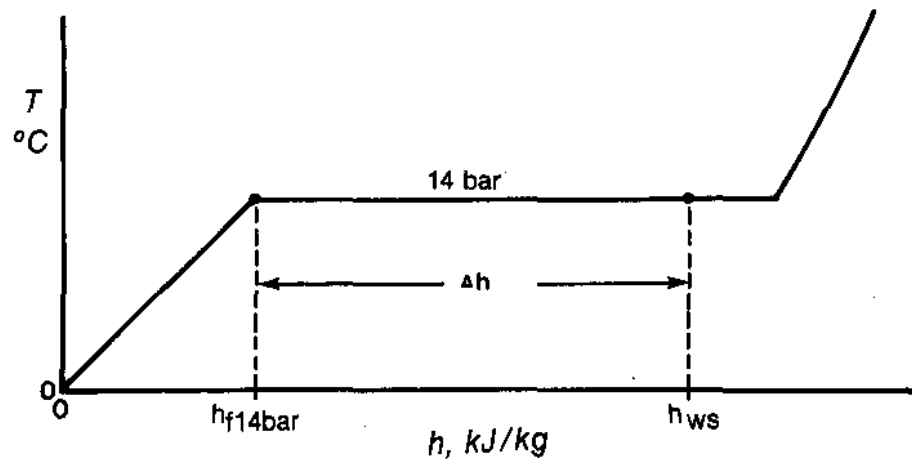

Figure 1.20
- 1.23) In this case,  $\Delta h$  is  $h_{ws} - h_{f14\text{bar}}$ . Since there is no mention of temperature change, we will assume the wet steam to be at 14 bar. This is shown on Figure 1.20:
By inspection of Figure 1.20, you will see that  $\Delta h$  is the same as the percentage of latent heat added to the saturated liquid. Since the steam is 10% wet, 90% is the percentage of latent heat added.